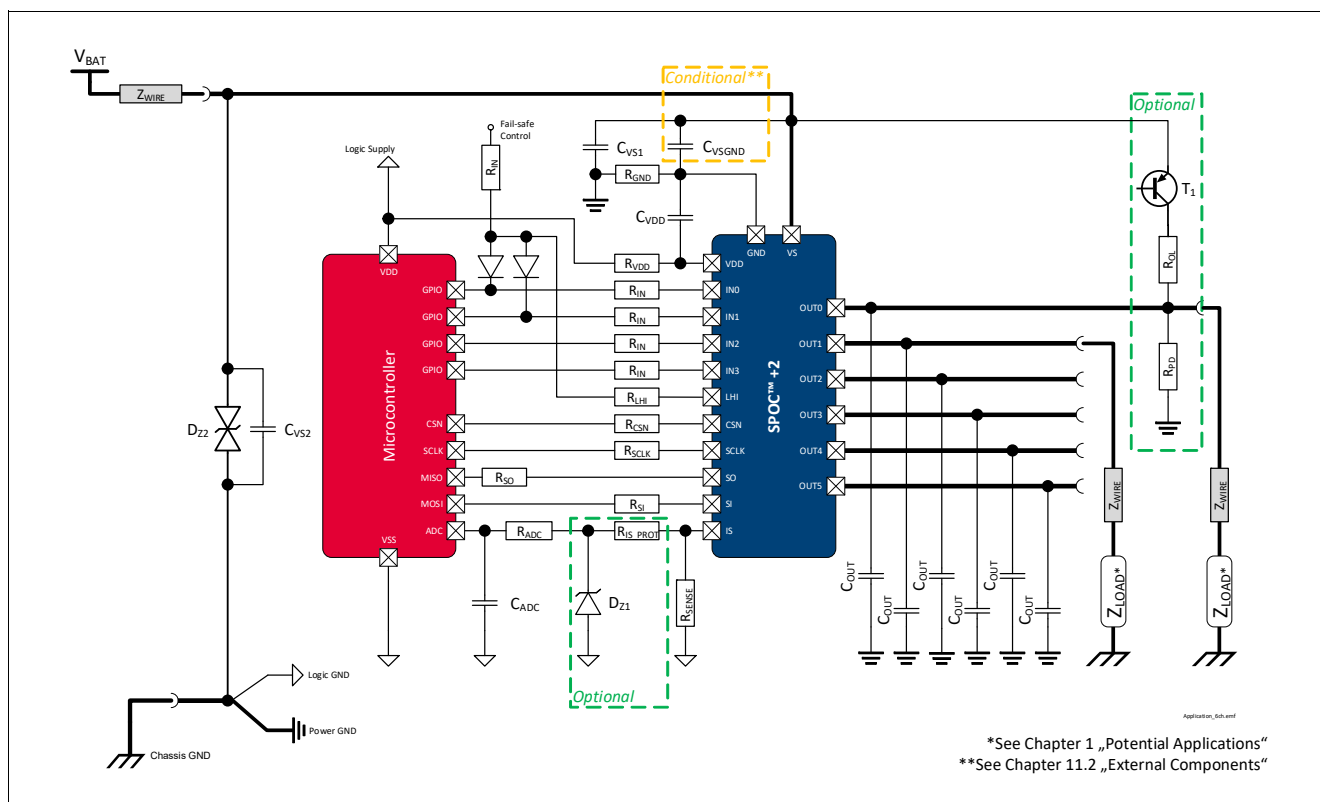

Figure 46 Application Diagram
1.10 , 2021-03-23	General: Datasheet quality improved Icon “PRO-SIL™ ISO 26262-ready” added to front page Chapter 1 updated (Potential Applications) Harmonization of Application Diagram (Figure 1, Figure 46) P_4.4.0.19, P_4.4.0.20 updated (Typ. value and Max. value) P_6.4.0.10 updated (Note or Test Condition) P_6.4.1.5 updated (Note or Test Condition) P_6.4.1.7 removed P_6.4.1.10 removed P_6.5.33.2 added P_9.6.0.6 updated parameter name P_9.6.0.17 added Figure 33 updated Figure 37 and Figure 38 updated Chapter 10.4 Typical value for VDD harmonized Chapter 11 updated (figures and descriptions)